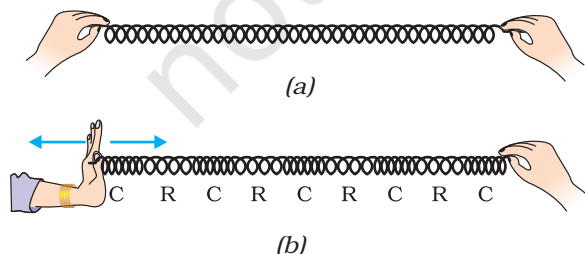

Fig. 11.5: Longitudinal wave in a slinky.
- Take a slinky. Ask your friend to hold one end. You hold the other end. Now stretch the slinky as shown in Fig. 11.5(a). Then give it a sharp push towards your friend.